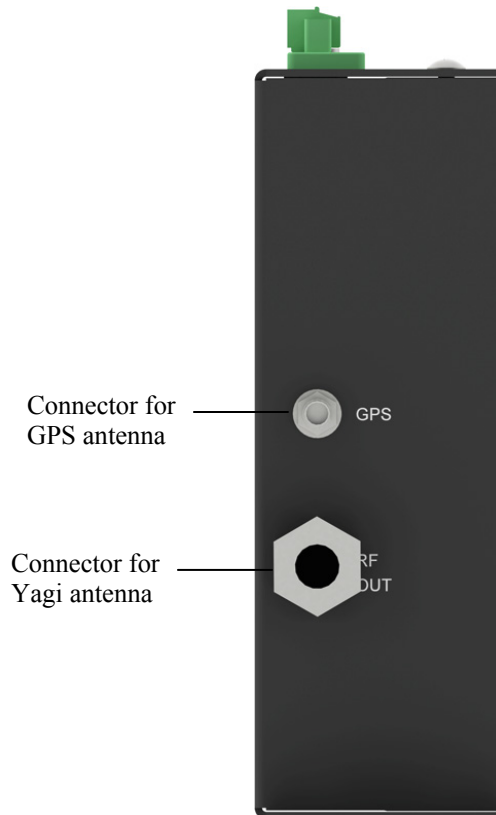
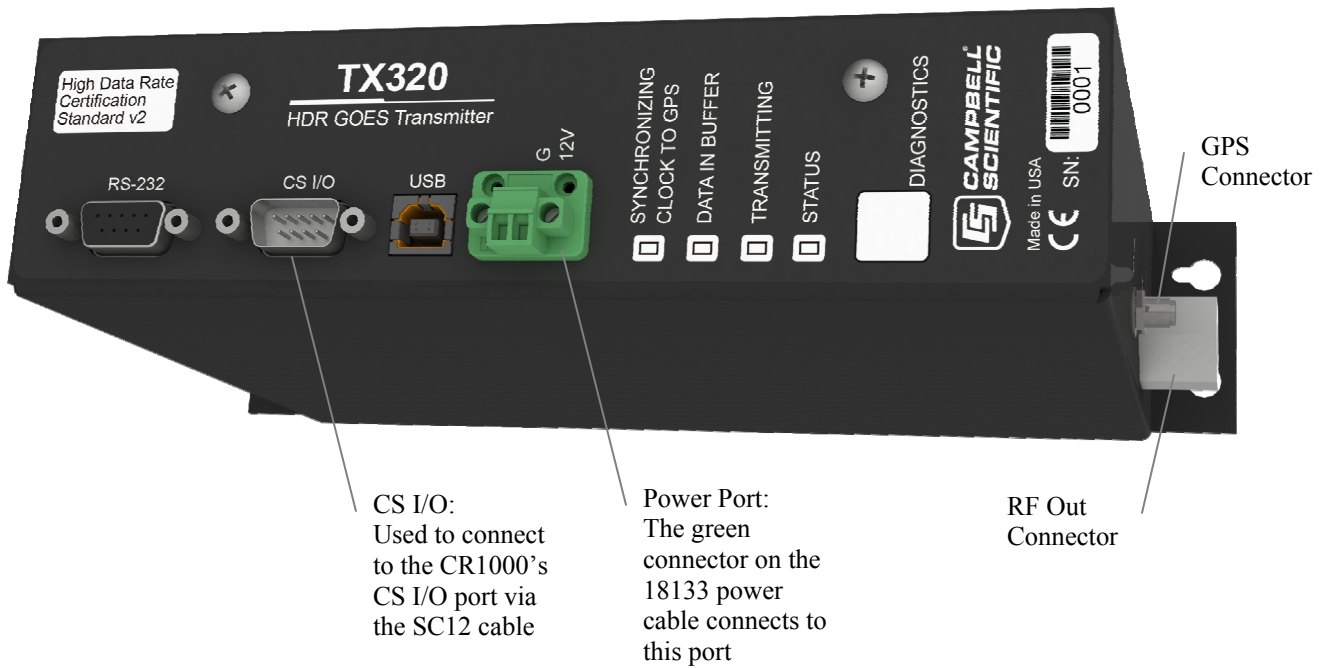
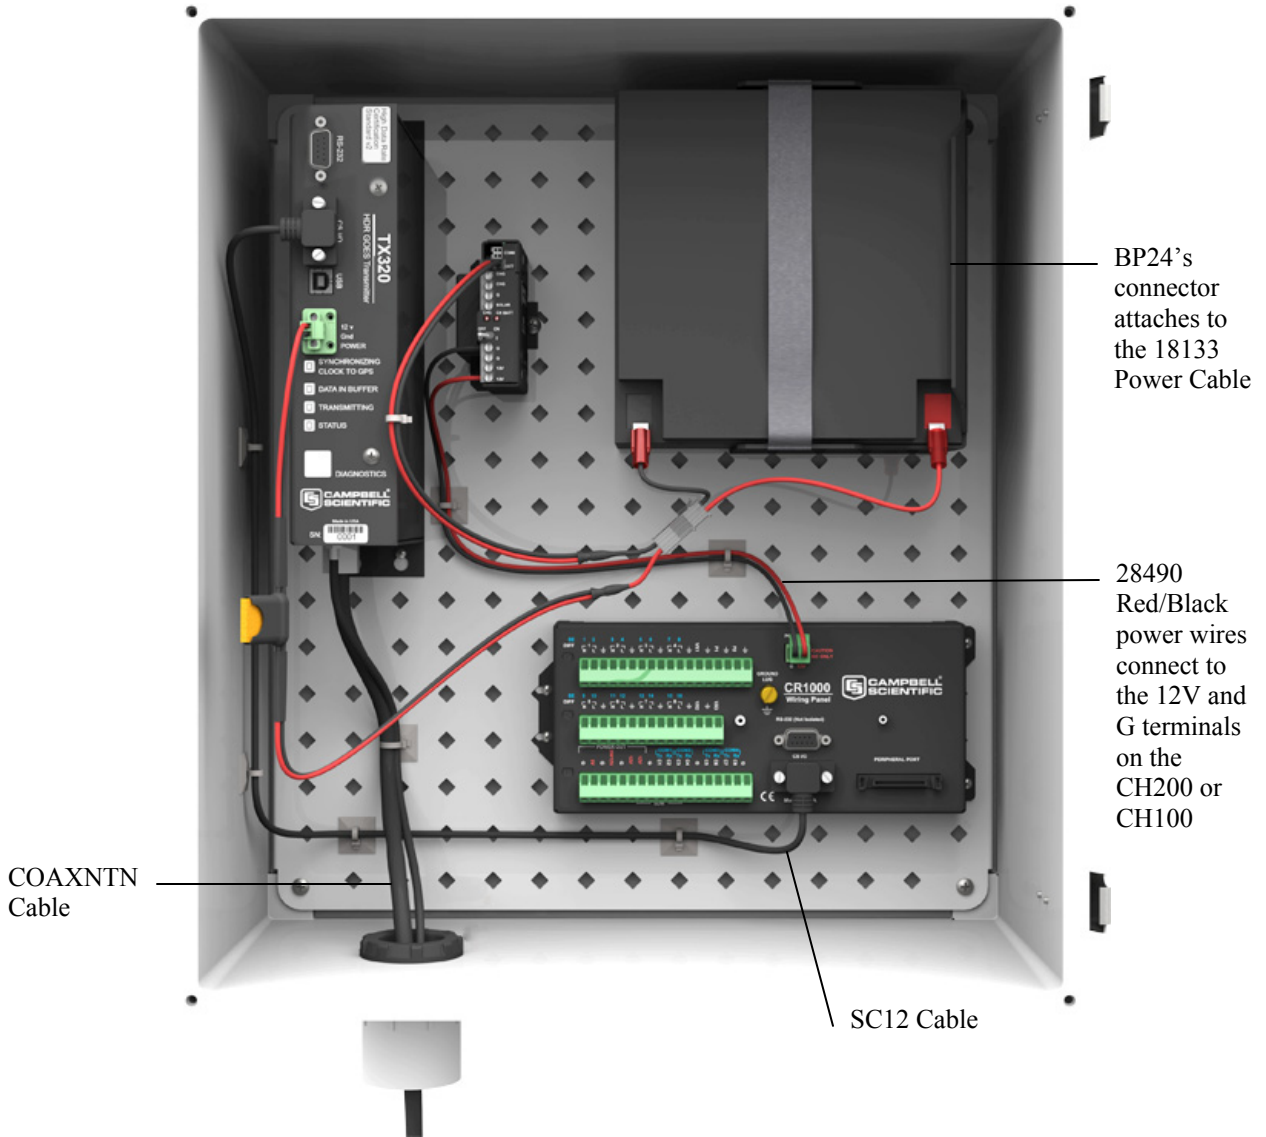

FIGURE 4-7. Antenna connectors
FIGURE 4-8. TX320 connectors
FIGURE 4-9. DCP enclosure
**NOTE** Refer to Section 4.1.1, *Accessing DevConfig*, for information about accessing *DevConfig*. The transmitter's internal GPS can be used to acquire the azimuth and elevation information. To use the internal GPS device, connect the GPS antenna (see FIGURE 4-7). The information will be listed in the GPS tab of *DevConfig*.
7. Connect the COAXNTN cable to the Yagi antenna. Then route the COAXNTN cable through the enclosure conduit and connect it to the TX320 connector labeled RF Out (see FIGURE 4-7 and FIGURE 4-8).
8. Connect the TNC connector of the 18017-L cable to the GPS antenna. Route the 18017-L cable through the enclosure conduit and connect it to the TX320 connector labeled GPS (see FIGURE 4-7 and FIGURE 4-8).
9. Wire the TX320, CH100 or CH200 regulator, BP12 battery, and CR1000 according to FIGURE 4-8 and FIGURE 4-9.